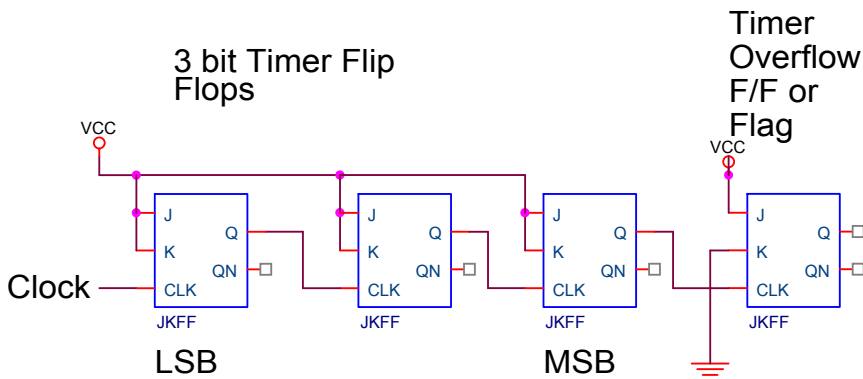
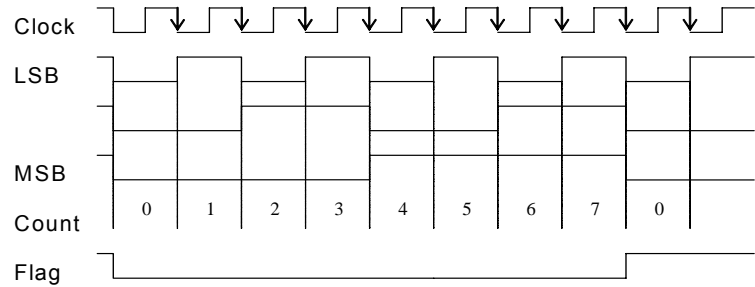

Figure 8.1 Schematic of a 3-Bit Timer
Figure 8.2 Timing Diagram
A timer/counter consists of a series of divide-by-two flip-flops (FF). Each FF is clocked by the Q output of the previous FF, as shown in Figure 8.1. Each stage, starting from the LSB F/F to the MSB F/F, generates an output signal which is half the frequency of its own clock input. Thus a 3-bit timer in Figure 8.1 will divide the input clock frequency by 8 (2^3). Normally a timer/counter has added features like producing an interrupt at the end of a count. By adding the timer overflow F/F to the counter, it will aid to generate such an interrupt signal. Figure 8.1 shows that the output of the last stage (MSB) clocks a timer overflow flag. The counter will count from 000b to 111b and set the overflow flag on the transition from 111b to 000b. The timing diagram is shown in Figure 8.2.